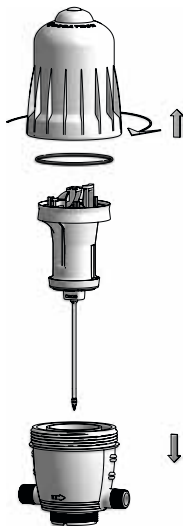

Fig. 35
- Unscrew the top cap manually (**Fig. 35**) and remove it.